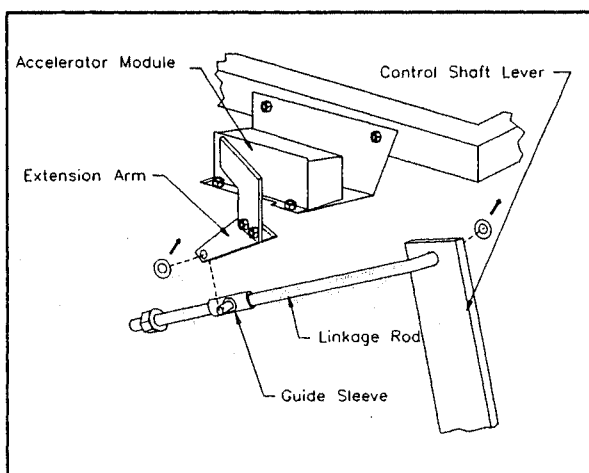

Figure 3-6
- With the mechanical control linkage in the park brake position, remove the cotter pin and washer from the control shaft lever (see figure 3-6).